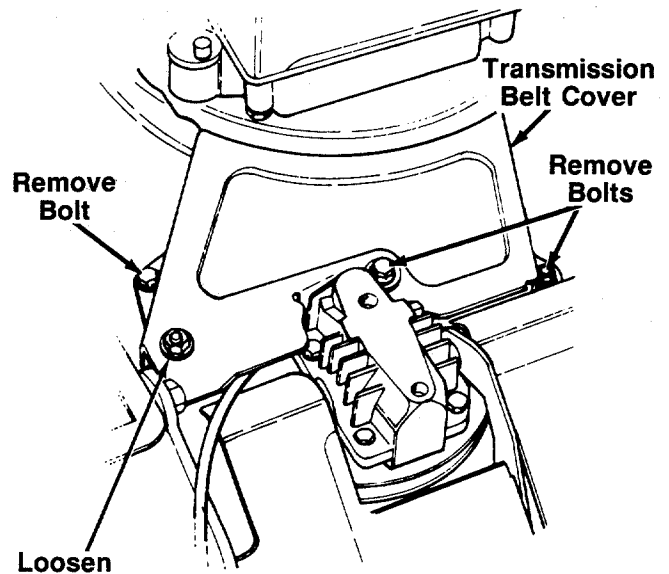

FIGURE 26.
4. Remove the transmission belt cover by removing three bolts. Loosen the transmission belt guard. See figure 26.